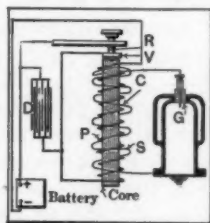

Fig. 78—Diagram of the wiring of a spark coil, showing connections to the condenser, battery and spark plug
**THE USE OF A CONDENSER IN CONNECTION WITH A SPARK COIL.**—The function of the condenser, as it is employed in a spark coil, has been variously stated by many authors, but it is doubtful if automobilists are familiar either with the design and construction of the condenser or with the facts in relation to its use. Fig. 78 is a diagram of a spark coil showing the condenser D composed of laminae of tinfoil with intervening laminae of oiled paper or other insulating material, the connections of the tinfoil being as shown. In connecting up the condenser to the spark coil one leg of the condenser connection goes to the battery and the other leg of the condenser connection goes to the lead of the secondary winding of the coil as it passes to the contact button V. The contact R is in the trembler, and the high tension coil is designated as C and S, while the low tension coil is identified by the letter P. The spark plug G has a lead to the other end of the high tension coil. It is the function of the condenser to prevent destructive arcing at the contact points and to fatten the wave of electromotive force which has the effect of swelling the wave of the resultant current so that the useful power in watts of the coil is increased without, however, burning out the contact points. If the condenser breaks down, or if an open circuit develops in its leads, this fact will be indicated by the drawing out of a hot spark at the contact points and they will be dissipated with considerable rapidity in consequence. Moreover, the efficacy of the spark-coil will be largely diminished. The condenser is capable of doing this useful work on account of its capacity for an electric charge, and its further ability to deliver the same back into the system at the propitious instant. The condenser, being made of relatively thin sheets of tinfoil that are insulated from each other by oiled paper, or fabric, is a delicate device and it must be protected from dust and dampness or shock in order to preserve its functions.